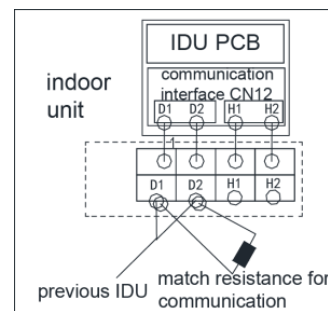

Fig.5.3.2
- 5) For more reliable communication, make sure connect the terminal resistor to the most downstream IDU of the communication bus (terminal D1 and D2), as shown in fig 5.3.2, terminal resistor is provided with each ODU.